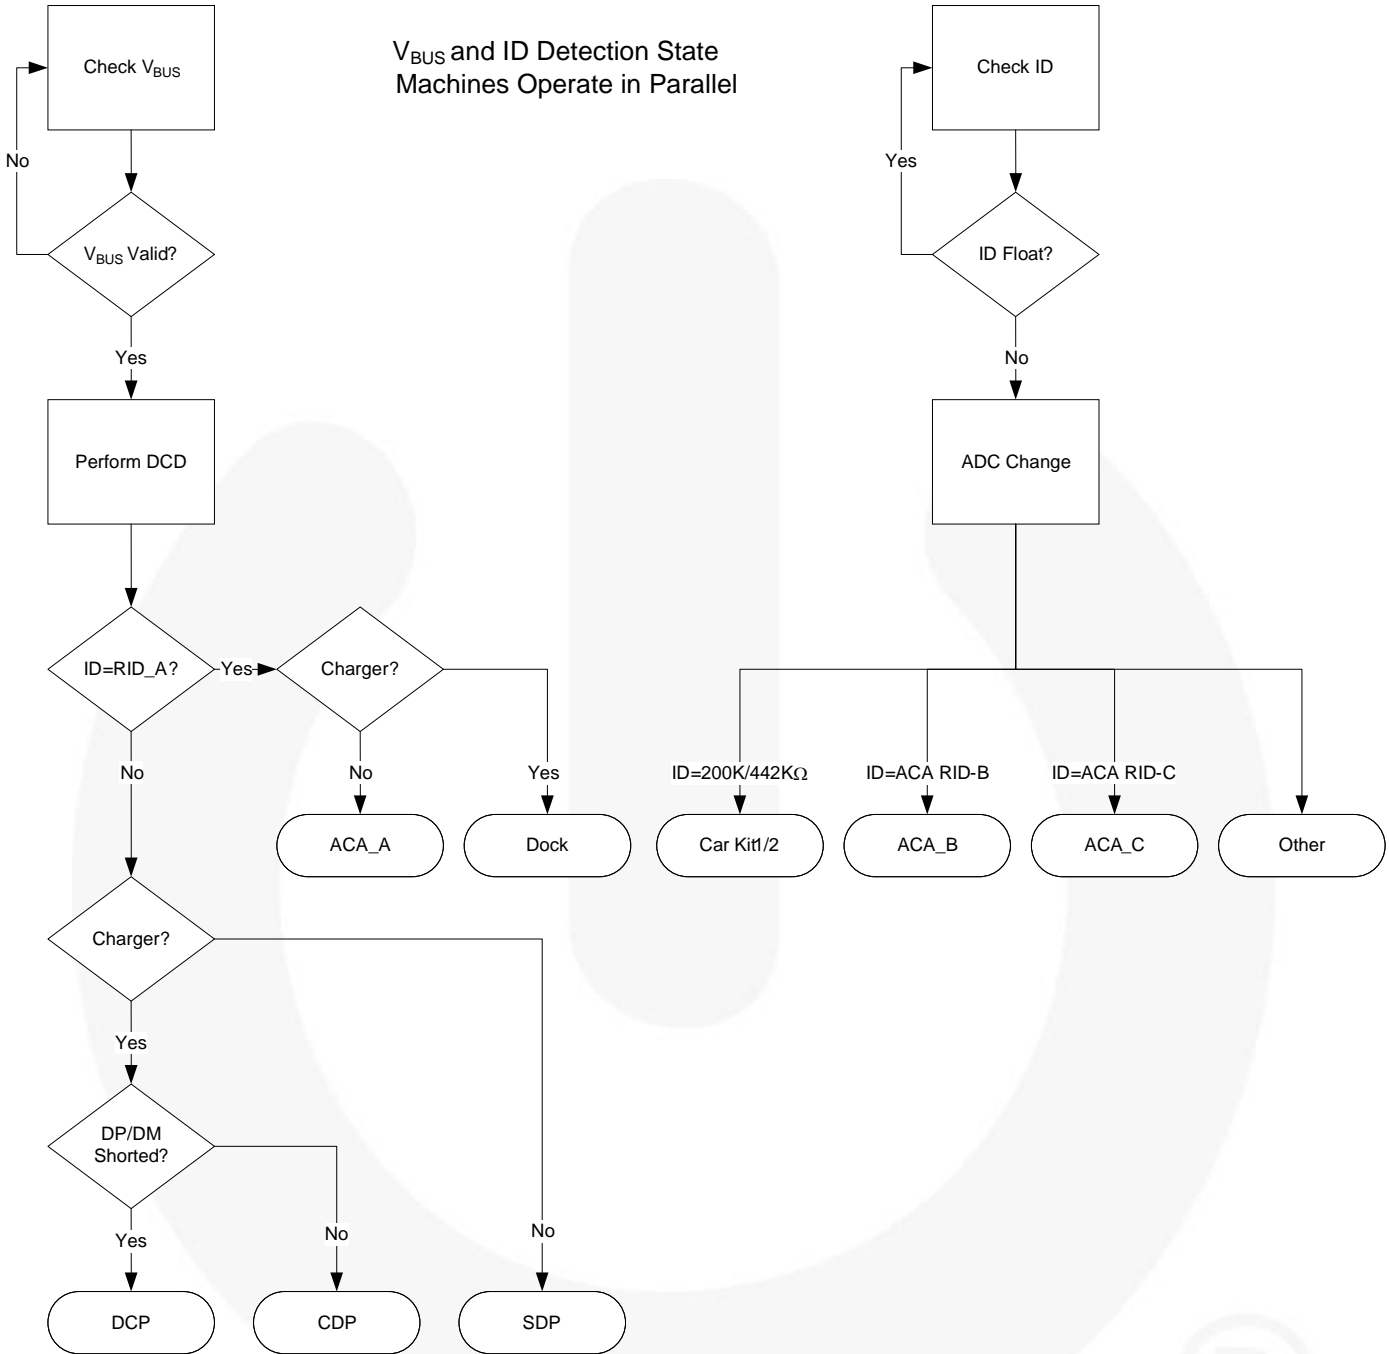

Figure 5. Accessory Discovery State Machine Flow Diagram
The USB detection flow is shown in Figure 5. Note that the INTB Mask bit in the Control register must be cleared after a reset or power-up before interrupts can be signaled by the FSA9285A. Individual Interrupt Masks bits can be enabled by writing the Interrupt Mask register (see Table 6).
- Figure 5 illustrates operation with a valid V_{DDIO} supply voltage. Figure 5 does not illustrate Dead Battery Provision (DBP) See Section 9 for details.